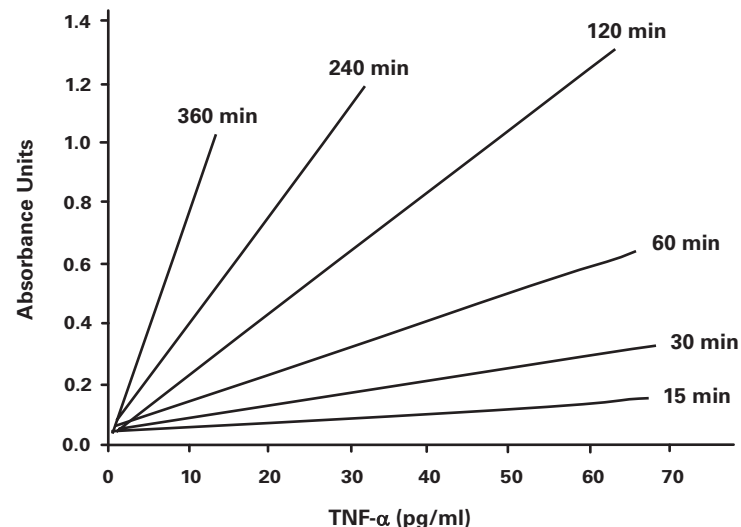

Figure 5. TNF-α Standard curve at various development times
5. The plates can be checked periodically over the next few hours. Once the S1 wells seem visibly yellow (0.3 A.U., ~20-30 minutes) it will be possible to determine the concentration of the relatively concentrated samples. Longer development times will be necessary to obtain an accurate plot for the lower range of the standard curve and statistically significant values for sample concentrations near the detection limit of the assay (~3.9 pg/ml). Standard curves at various development times are shown in Figure 5 (see page 19).